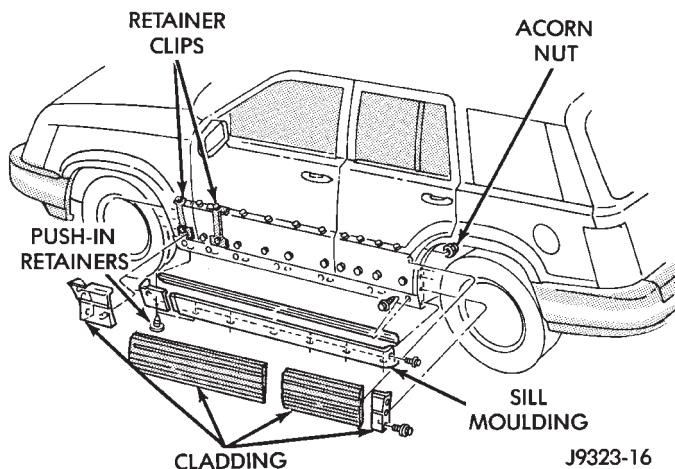

Fig. 25 Body Side Cladding
- (1) Using a trim stick, gently lift up from bottom of cladding. Unsnap molding from retaining clips (Fig. 25)
- (2) Lift upward and remove molding.
- (1) Open rear door.
- (2) Remove acorn nut at rear dogleg (Fig. 25).
- (3) Using a trim stick, gently lift up from bottom of cladding. Unsnap molding from retaining clips.